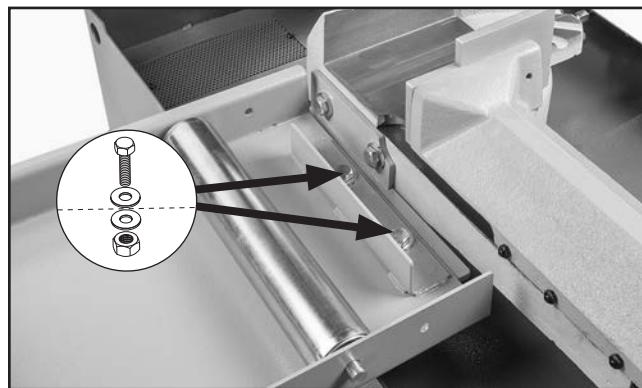

Figure 7. Infeed roller set attached to mounting bracket.
5. Attach assembled Model T30399 infeed roller table and leg to infeed mounting bracket using (2) M10-1.5 x 25 hex bolts, (4) 10mm flat washers, and (2) M10-1.5 hex nuts (see **Figure 7**).